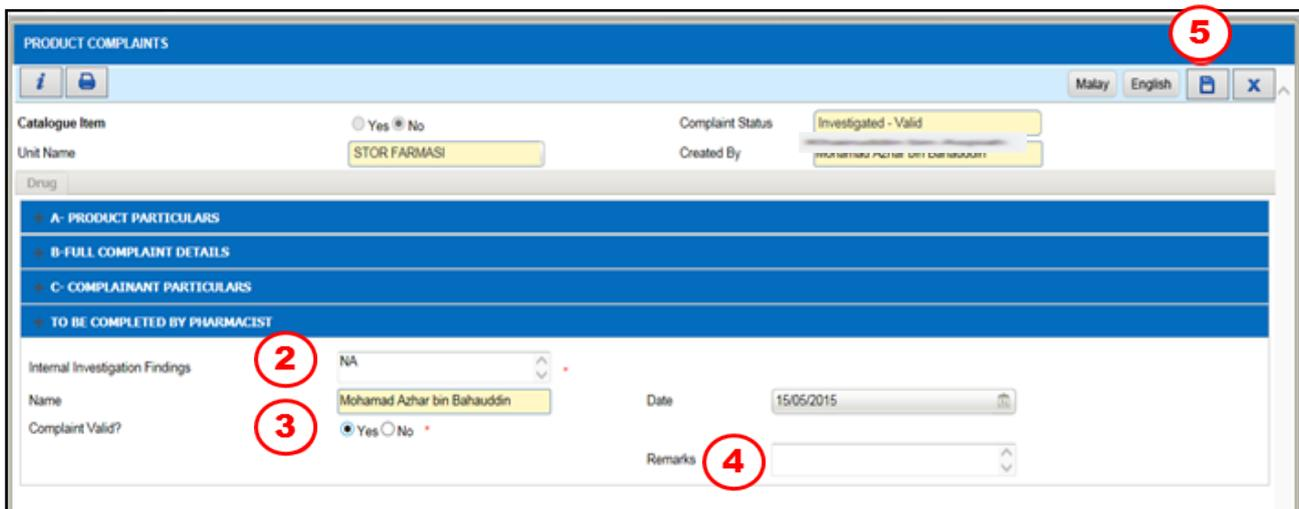

Figure 3.3.2-3 Investigation – Valid Product Complaints record
- These four (4) panels can be maximized / minimized in the Investigation - Pending Product Complaints form:
- DIS pharmacist needs to fill in the 'To Be Completed by Pharmacist' section as shown in Figure 3.3.2-3.